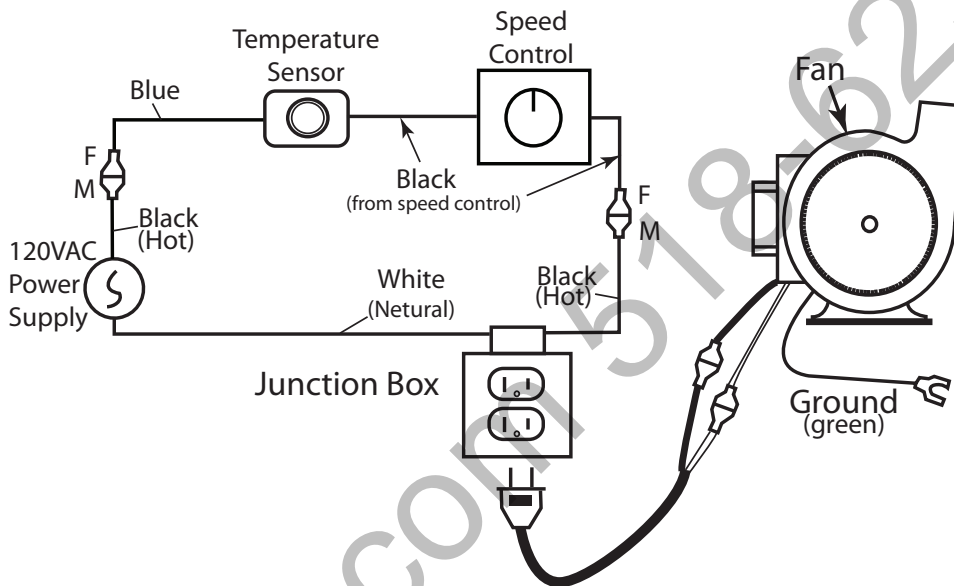

Fig. 2 Wiring Diagram
5. After properly wiring (Fig. 2) the speed control turn the 120VAC service to **ON** at the circuit breaker and turn your speed control to **ON**. **Note:** The temperature sensor will activate the fan when temperature at the sensor reaches 110°F. This may take 15 to 20 minutes. If after 30 minutes the fan does not turn ON then check wiring, ensure speed control is turned ON and ensure temperature sensor is against the combustion chamber. If sensor is laying directly on the base (floor) of the fireplace the fan may never turn ON.